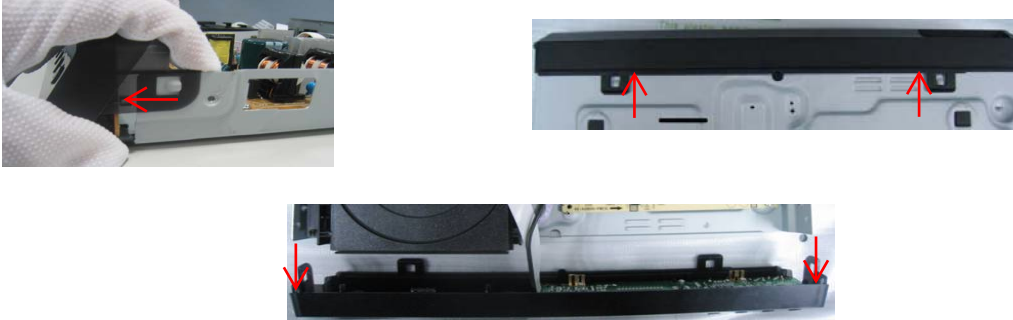

Figure 3
**Step3** :Dismantle Front Panel, disconnect the connectors (XP22, XP33), need release 2 snaps of Front Panel & 2 snaps of bottom cabinet , then gently pull the Panel out from the set. (Figure 3)